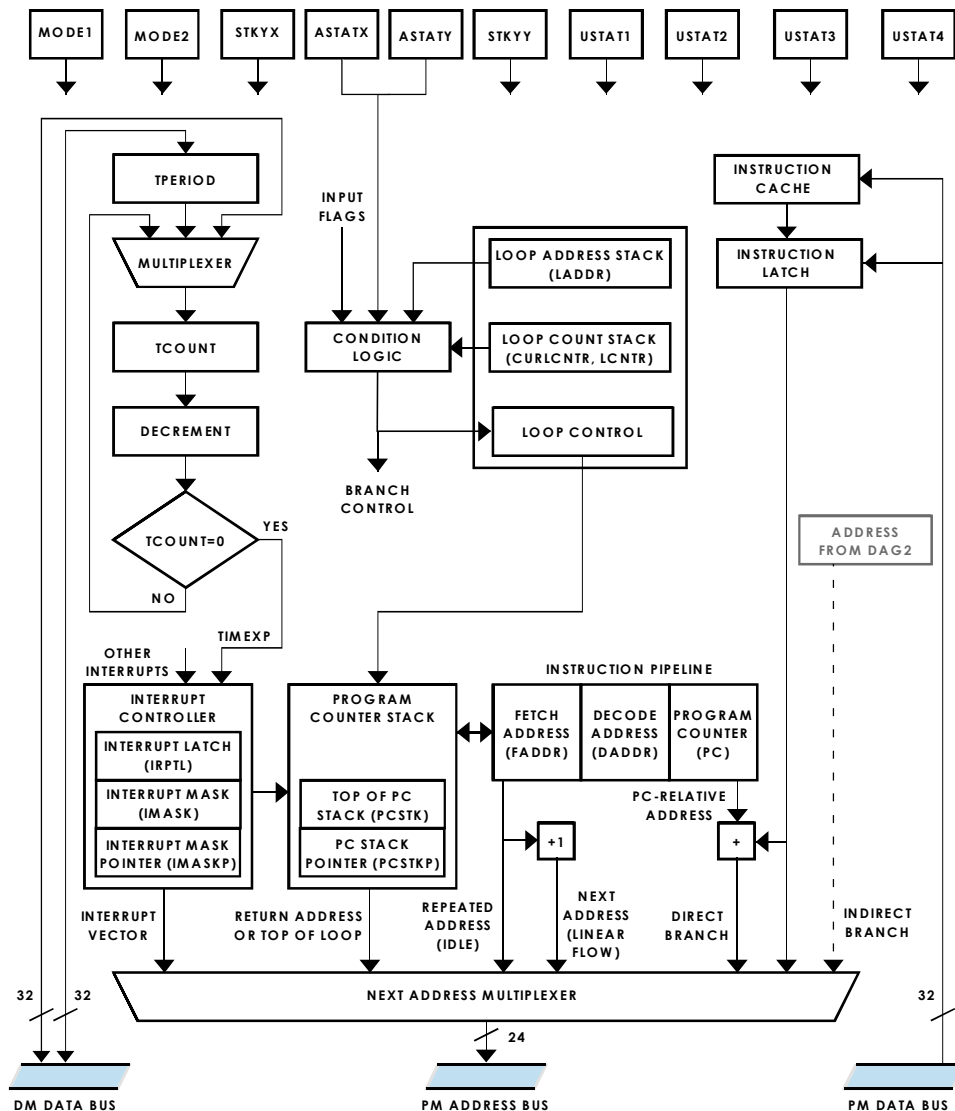

Figure 3-2. Program Sequencer Block Diagram
To accomplish these tasks, the sequencer uses the blocks shown in Figure 3-2. The sequencer's address multiplexer selects the value of the next fetch address from several possible sources. The fetched address enters the instruction pipeline, made up of the fetch address register, decode address register, and program counter (PC). These contain the 24-bit addresses of the instructions currently being fetched, decoded, and executed. The PC couples with the PC stack, which stores return addresses and top-of-loop addresses. All addresses generated by the sequencer are 24-bit program memory instruction addresses.
A set of system control registers configures or provides input to the sequencer. These registers appear across the top and within the interrupt controller shown in Figure 3-2. A bit manipulation instruction permits setting, clearing, toggling, or testing specific bits in the system registers. For information on this instruction (Bit), see the *ADSP-21160 SHARC DSP Instruction Set Reference*. Writes to some of these registers do not take effect on the next cycle. For example, after a write to the `MODE1` register to enable ALU saturation mode, the change does not take effect until two cycles after the write. Also, some of these registers do not update on the cycle immediately following a write. An extra cycle is required before a read of the register returns the new value. With the lists of sequencer and system registers, Table 3-1 and Table 3-2 summarize the number of extra cycles (latency) for a write to take effect (effect latency) and for a new value to appear in the register (read latency). A “0” indicates that the write takes effect or appears in the register on the next cycle after the write instruction is executed, and a “1” indicates one extra cycle.
The following sections in this chapter explain how to use each of the functional blocks in Figure 3-2:
Usually, the sequencer fetches an instruction from memory on each cycle. Occasionally, bus constraints prevent some of the data and instructions from being fetched in a single cycle. To alleviate these data flow constraints, the DSP has an instruction cache, which appears in Figure 3-2. When the DSP executes an instruction that requires data access over the PM data bus, a bus conflict occurs because the sequencer uses the PM data bus for fetching instructions. To avoid these conflicts, the DSP caches these instructions, reducing delays. Except for enabling or disabling the cache, its operation requires no user intervention. For more information, see “Using the Cache” on page 3-12.